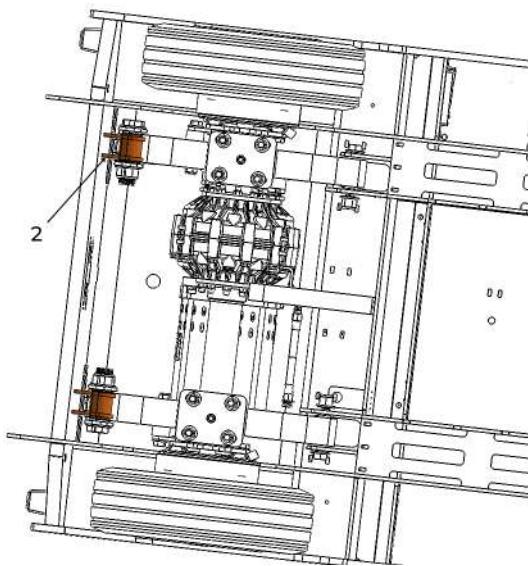

Figure 29. Rear Suspension Mounting Tabs.
- Rear suspension mounting tabs (2) (see Figure 29).